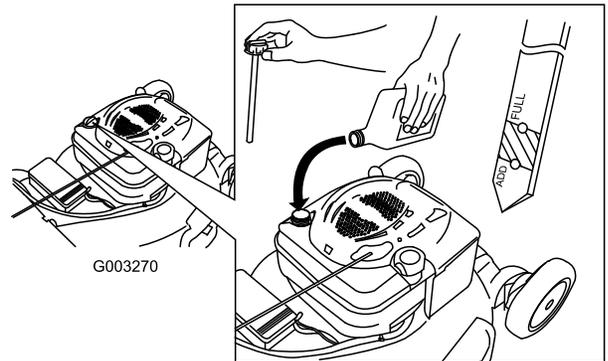

Figure 49
4. **Slowly** pour oil into the oil fill tube until the oil level reaches the Full line on the dipstick (Figure 49). **Do not overfill.** (Max. fill: 20 oz. (0.59 l), type: SAE 30W detergent oil with an API service classification of SF, SG, SH, SJ, SL, or higher.)